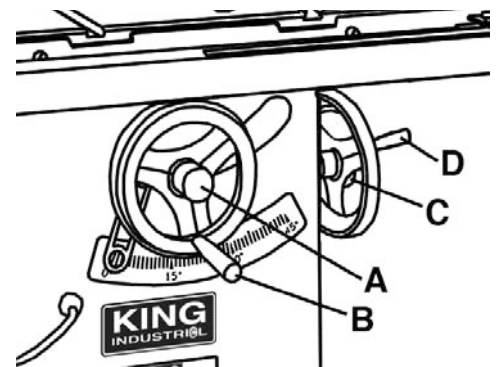

FIGURE 17
To raise or lower the blade, loosen lock knob (A) Fig.17. and turn the raising handwheel (B). When desired height is obtained, retighten lock knob. The blade should be raised 1/8" to 1/4" above the top surface of the material being cut. With hollow ground blades the blade should be raised to the maximum to provide chip clearance.